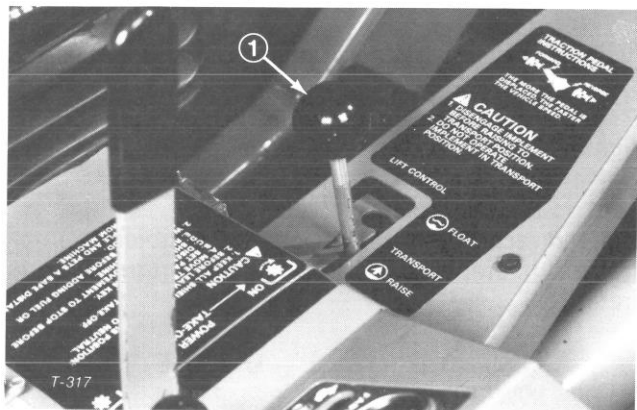
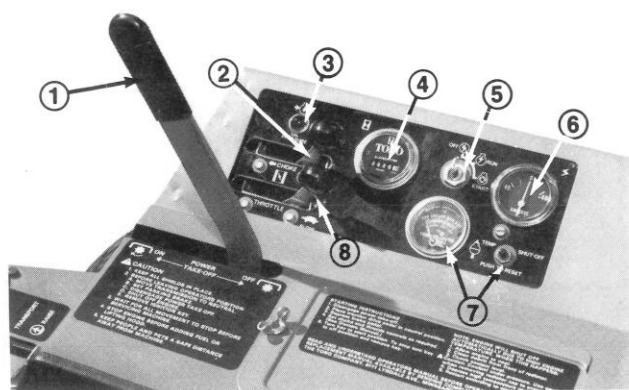

Figure 19
Figure 20
**Lift Lever (Fig 19)** — The hydraulic lift lever has three positions; FLOAT, TRANSPORT and RAISE. To lower implement to the ground, move lift lever forward into notch, which is the FLOAT position. The FLOAT position is used for operation and also when machine is not in operation. To raise implement, pull lift lever backward to the RAISE position. After implement is raised, allow lift lever to move to the TRANSPORT position. Normally, implement should be raised when driving from one work area to another, except when descending steep slopes.
**PTO Lever (Fig. 20)** — The PTO lever has two positions; ON, engage and OFF, disengage. Slowly push PTO lever fully forward to ON position to start the implement or cutting unit blades. Slowly, pull lever backward to OFF position to stop implement operation. The only time PTO lever should be in the ON position is when implement or cutting unit is down in operating position.
**Oil Pressure Warning Light** (Fig. 20) — The oil pressure warning light will glow and a buzzer will sound when oil pressure in engine drops below a safe level. If low oil pressure ever occurs, stop engine and determine the cause. Repair the damage before starting the engine again.
**Hour Meter** (Fig. 20) — The hour meter registers accumulated hours of engine operation. Use the hour meter to determine intervals for service maintenance and lubrication.
**Ammeter** (Fig. 20) — Ammeter shows charge rate of the battery by the alternator. When engine is running, there usually is a slight charge, unless engine is idling slowly. Needle will point to 0 when battery is fully charged. By contrast, alternator is not charging the battery when needle points to (-) negative side of ammeter, and if this happens, repair the charging system to prevent discharge of the battery.
**Temperature Switch/Gauge and Reset Button** (Fig. 20) — The temperature switch/gauge registers the temperature of the coolant in the cooling system. If temperature of coolant gets too high the engine will shut off automatically. When this happens, rotate ignition key to OFF. Automatic shut-off of the engine usually results from debris on front of screen or radiator, which reduces air flow. After cleaning outside of screen and radiator or repairing some other damage, press the reset button and start the engine.
**Ignition Switch** (Fig. 20) — The ignition switch, which is used to start and stop the engine, has three positions; OFF, RUN and START. Rotate
**Choke** (Fig. 20) — To start a cold engine, close carburetor choke by moving choke control fully forward. After engine starts, regulate choke to keep engine running smoothly. As soon as possible, open the choke by pulling it backward.
**Throttle** (Fig. 20) — Throttle is used to operate engine at various speeds. Moving throttle forward increases engine speed — FAST; backward decreases engine speed — SLOW. The throttle regulates the speed of the cutter blades or other implement components and, in conjunction with traction pedal, controls ground speed of the traction unit.
1. Insure parking brake is set, PTO lever is in OFF position (Fig. 20) and lift lever is in TRANS-PORT or FLOAT position (Fig. 19). Remove foot from traction pedal and assure it is in neutral.
2. Move throttle control (Fig. 20) to SLOW position.
3. To start engine, move choke lever (Fig. 20) fully forward.
4. Insert key into ignition switch (Fig. 20) and rotate it clockwise to START position. Release key immediately when engine starts and regulate choke to keep engine running smoothly.